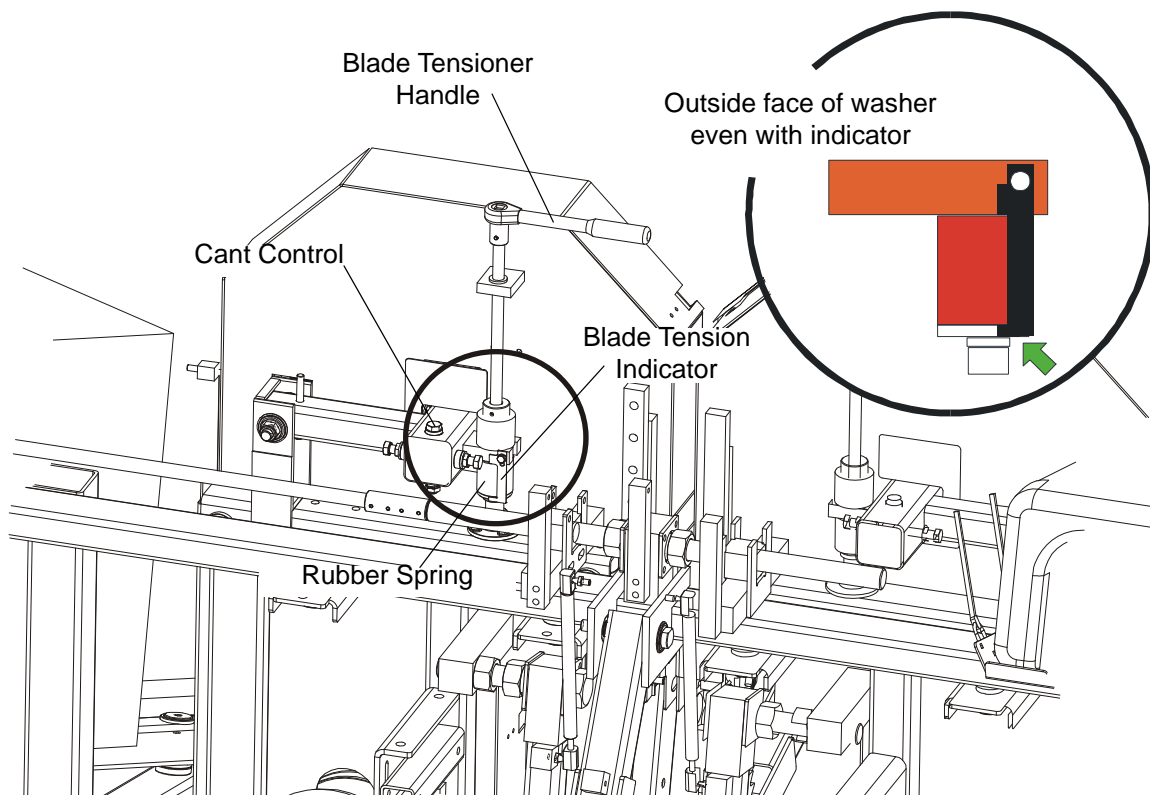

FIG. 2-2
See **Figure 2-2**. Place the provided handle on the blade tensioner shaft. Turn the handle clockwise until the outside face of the rubber spring washer is even with the indicator (see the figure below). Check the blade tension occasionally when adjusting the cant control or while cutting and adjust if necessary. As the blade and belts heat up and stretch, the blade tension will change. Also, ambient temperature changes can cause tension to change.
5. Use the cant adjustment bolt, shown in **Figure 2-2**, to adjust where the blade travels on the blade wheels.